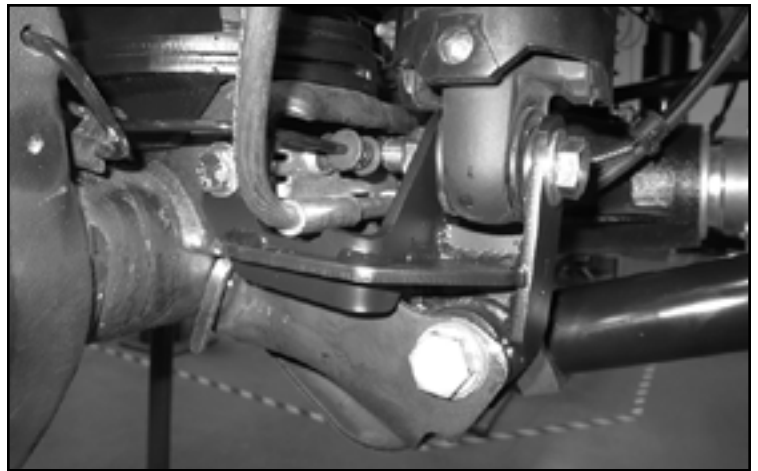

FIGURE 3 - STEP 3
3. Reinstall the lower brake line bracket using the supplied 3/8" x 1-1/4" bolt, washer and FT83105 (Nut tab). Install the hardware through the new lower shock extension bracket and the nut tab on the back side. Torque factory hardware to 100 ft-lbs. and 3/8" 52 ft-lbs. Attach the lower shock eye to the new bracket using the supplied 9/16" hardware Torque to 147 ft-lbs **SEE FIGURE 3. Repeat steps on passenger side.**